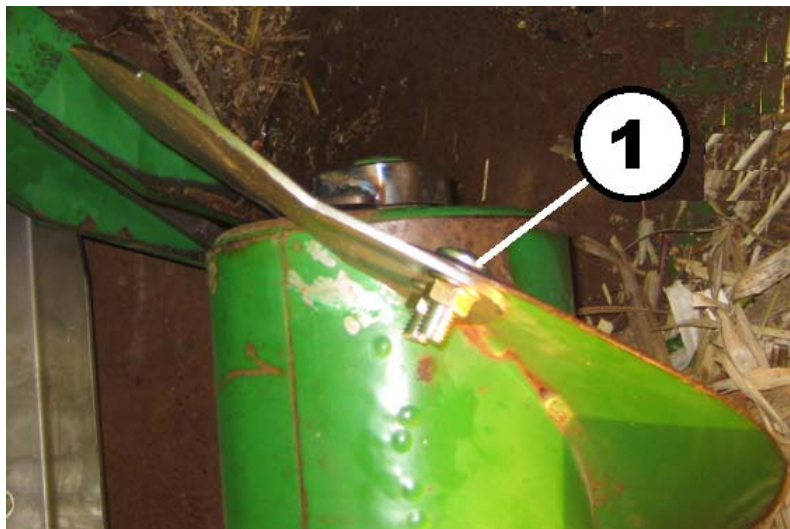

Figure 9. Install Hardware
Install two (2) 5/16" x 1" Carriage Bolts and two (2) 5/16" Flange Nuts as indicated in Figure 9. Tighten all hardware properly.